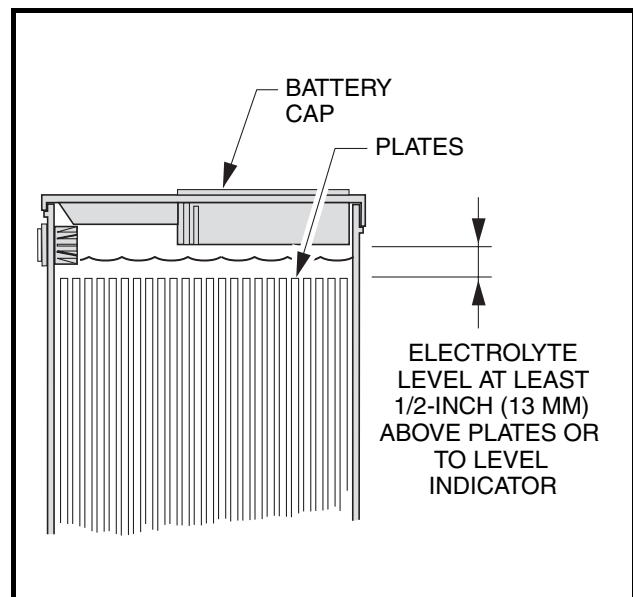

Figure 11-23 Battery Electrolyte Level
1. Be sure that the battery has sufficient water to cover the plates by approximately 1/2-inch (13 mm) and is fully charged prior to beginning the test. If water must be added, recharge the battery before performing the hydrometer test (**Figure 11-23, Page 11-21**).